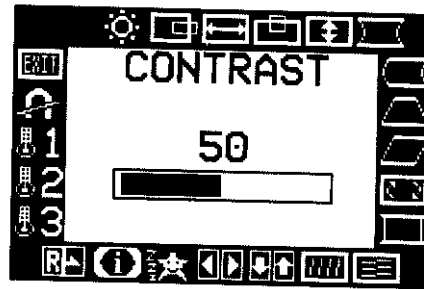

Figure 5 The OSD Message
2. Rotate the Encoder to switch the desired function. See figure 5.